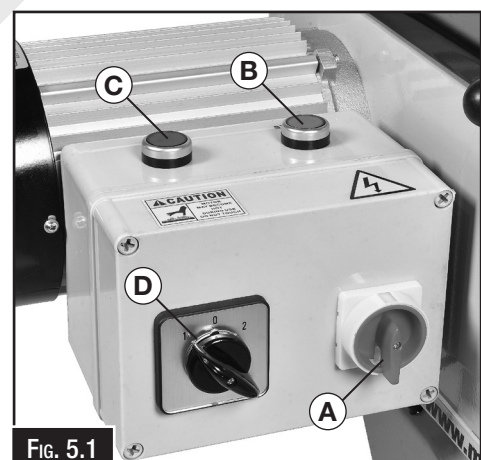

Fig. 5.1
- A Isolating Switch:** Disconnects the power to the machine. (Fig. 5.1)
2. High Speed (Fig.5.1)